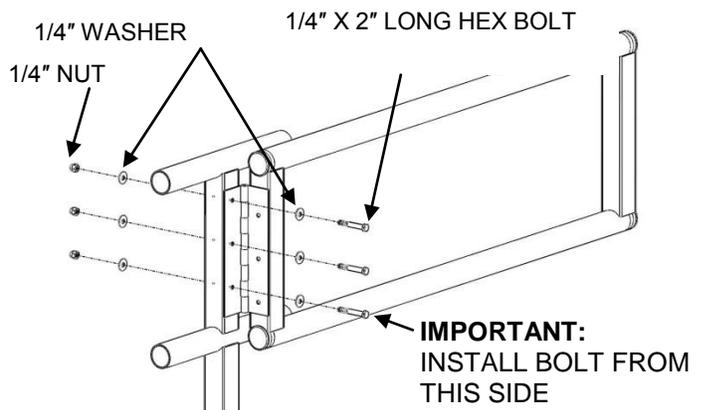

**FIG. 6.27**
- 6.10.1. Using the rubber mallet, tap in the provided round tube plugs into the tubing ends on the gate. (FIG. 6.27).